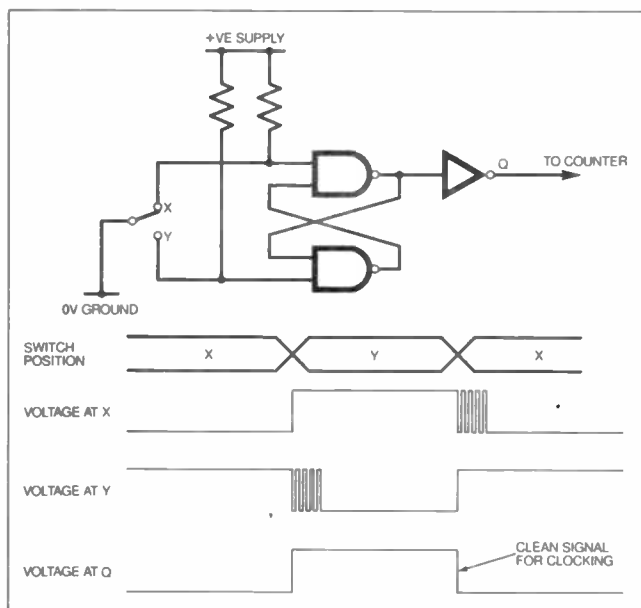

Fig.3. A switch debounce circuit can be made using a Set-Reset (S-R) flip-flop.
This is because mechanical switch contacts often "bounce", making and breaking the contact over a period of a few milliseconds, before coming to rest. Digital circuits can easily detect rapid transitions arising from multiple clocks being fed to the counter, which gives rise to unwanted counts. However, a debounced switch can easily be obtained using a Set-Reset (SR) flipflop as shown in Fig. 3.